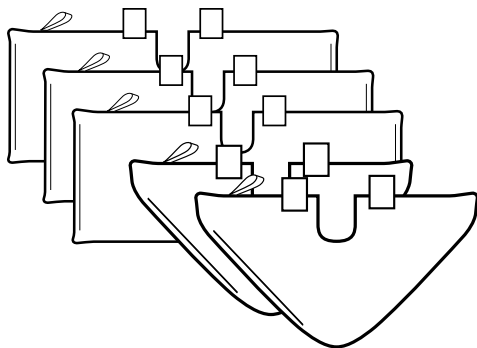

fig. 17
- 1 We recommend washing your micro-fiber cleaning pad separately from other fabrics to avoid picking up lint. **Only use liquid detergent (no powder detergent). Don't use any fabric softeners or bleach.** Line dry or dry on a low dryer setting. (fig. 17)